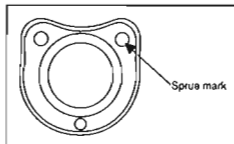

Figure 11
4. Slide the shock buff into the spring guide as shown on page 5. There are three circular marks on the beveled side of the shock buff. (*figure 11*) These marks should be on the side of the shock buff that goes on and ends up against the battery cap flange. The shock buff will split if it is not snugly against flange.